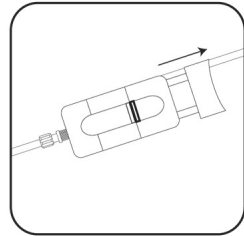

Figure 9: Slide the AirPulse Handle full-back. A RED indicator light is displayed.
- ⇒ Slide the AMS handle to the full back position (Fig. 9). A solid **RED** indicator light is displayed.